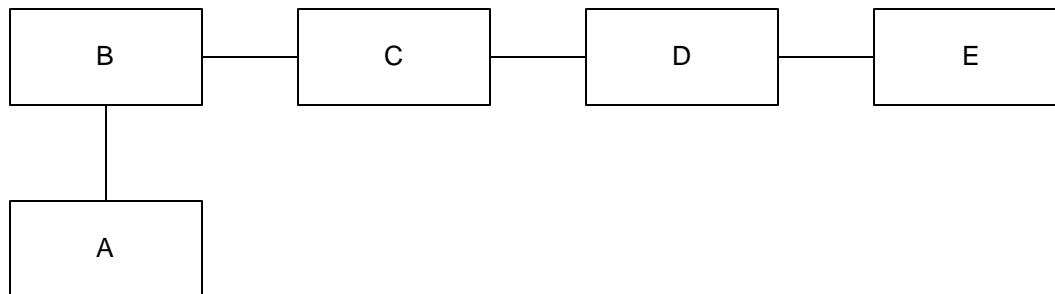

Figure 25: Occupied Bandwidth Test Setup
- 1 Connect the equipment as shown in Figure 25 above.